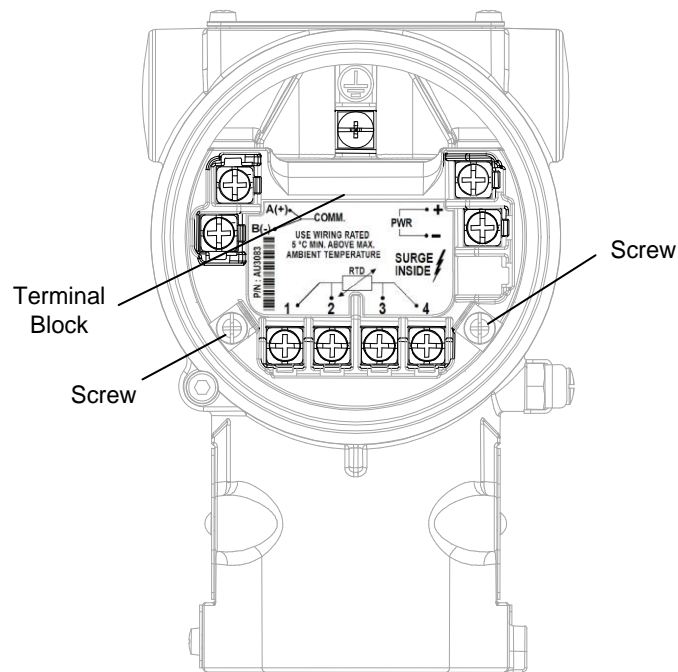

Figure 44: Terminal block
- a. Remove the 2 fastening screws (Figure 44).